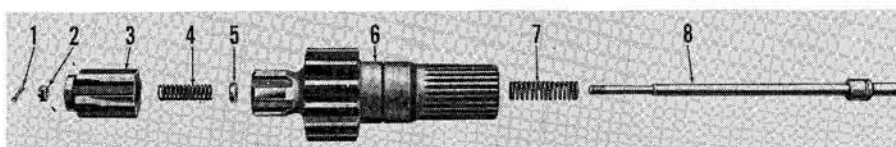

Fig. 150—Exploded view of right bull pinion and differential lock assembly. Protrusion of rod (8) is adjusted by nut (2); refer to Fig. 151.
194. **DIFFERENTIAL LOCK AND BULL PINION ASSEMBLY.** Refer to paragraph 204 to remove and reinstall bull pinion assembly. The differential lock and bull pinion assembly can be disassembled by removing the cotter pin and castellated nut from inner end of differential lock operating rod. Refer to exploded view in Fig. 150.
**Fig. 156—Cut-away view of model "FSM" and "New FSM" disc brake, bull pinion and differential lock. Exploded view of the right bull pinion and differential lock assembly is shown in Fig. 150.**